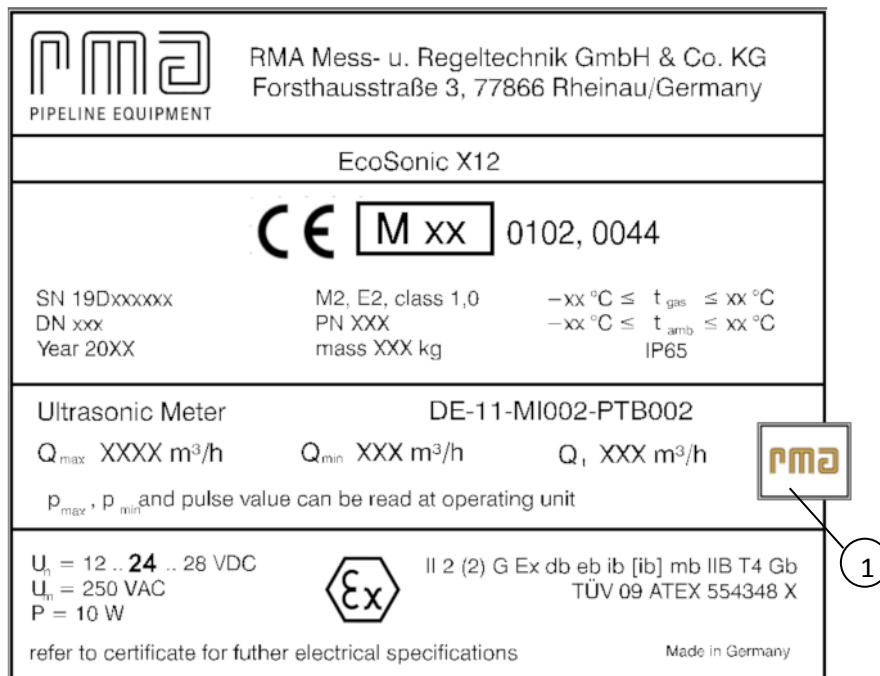

Fig. 1 Main data plate with adhesive label of the manufacturer (1)
There are also additional data plates and metrological protections for custody transfer measurements (e.g. seals, adhesive labels (1), see Fig. 1 on the data plate and housing of the EcoSonic X12).